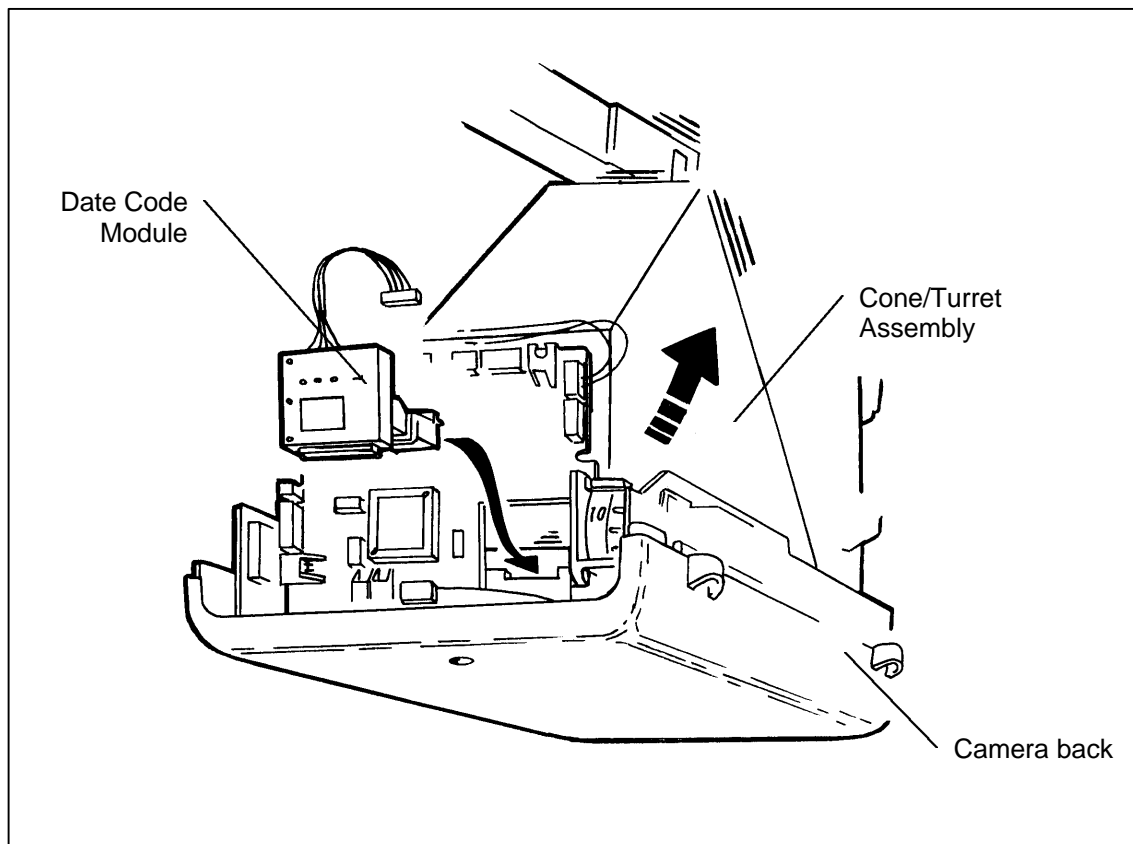

Figure 5-16 Date Code Module
1. Removal (Figure 5-16)
- e. Using a torx driver, loosen the six (6) screws securing the camera back to the cone assembly.